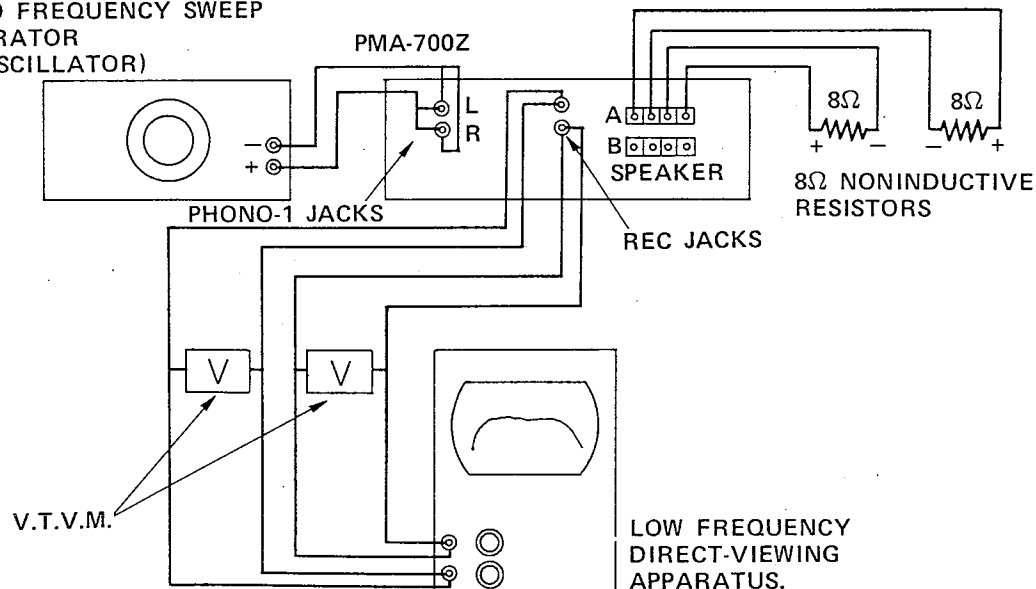

Fig. 23
- Figure 23 shows for testing PHONE-1 frequency characteristic.